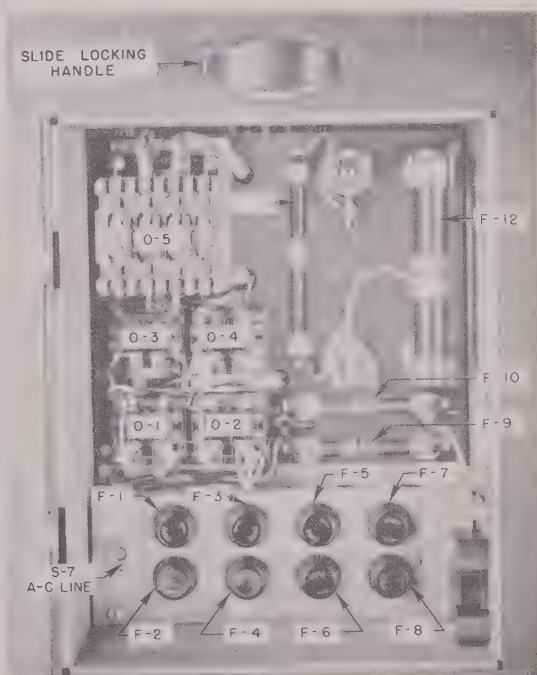

Figure 21. Radio Transmitter Model 96D, fuse panel
c. Installation of Fuses (fig. 21). The fuses are mounted on the fuse and relay panel at the front of the slide. Access to the panel is obtained by opening the door protecting the panel. Eight fuses of the cartridge type are fitted in sockets across the bottom of the panel and held in place by caps with bayonet fittings. The other four fuses are the cartridge type and mount in clips on the panel. Insert the fuses in their respective places, following the listing below: